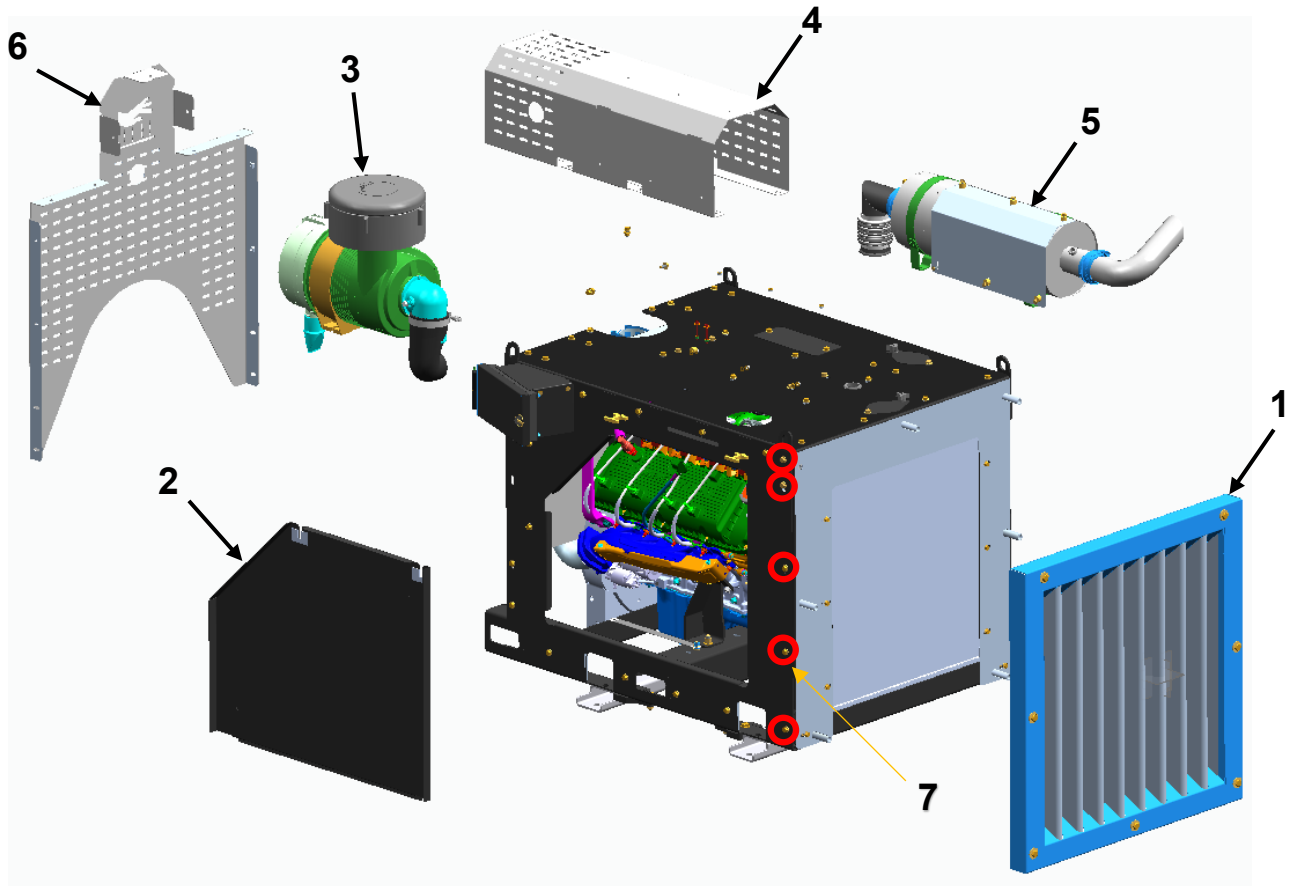

Figure 1
- 1) See Figure 1. Remove the Debris Screen (1), Access Panel (2), Engine Air Intake Assembly (3), Exhaust Heat Shield (4), Muffler Assembly (5), Rear Panel (6) and the hardware used to hold the Radiator Cover Plate sides and Engine Lifting Lugs (highlighted in red circles) on both sides of engine (7) in the order as numbered and set aside.